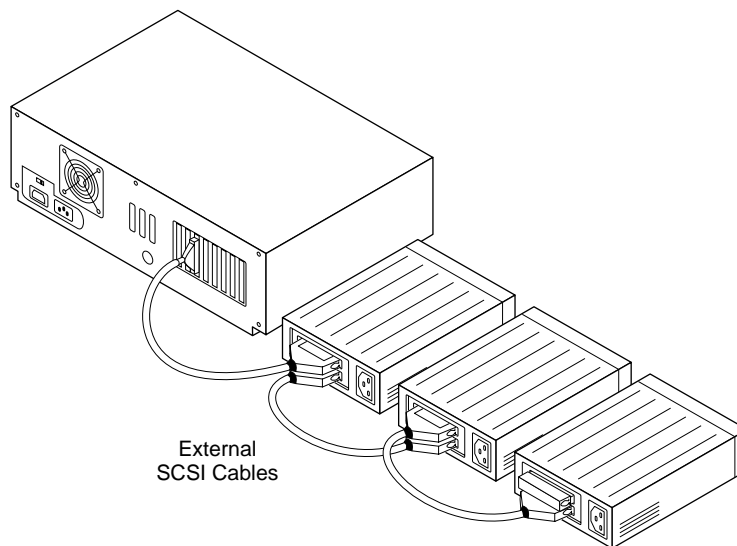

Figure 2-10. Connecting Multiple External SCSI Devices
- 3 To connect other external SCSI devices, daisy chain each device to the previous device until all external SCSI devices have been connected, as shown in Figure 2-10.